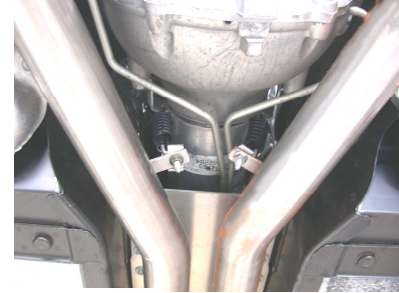

Figure 11
3. Using the original hardware, attach the spring hangers to the extension pipes as shown in figure 11.